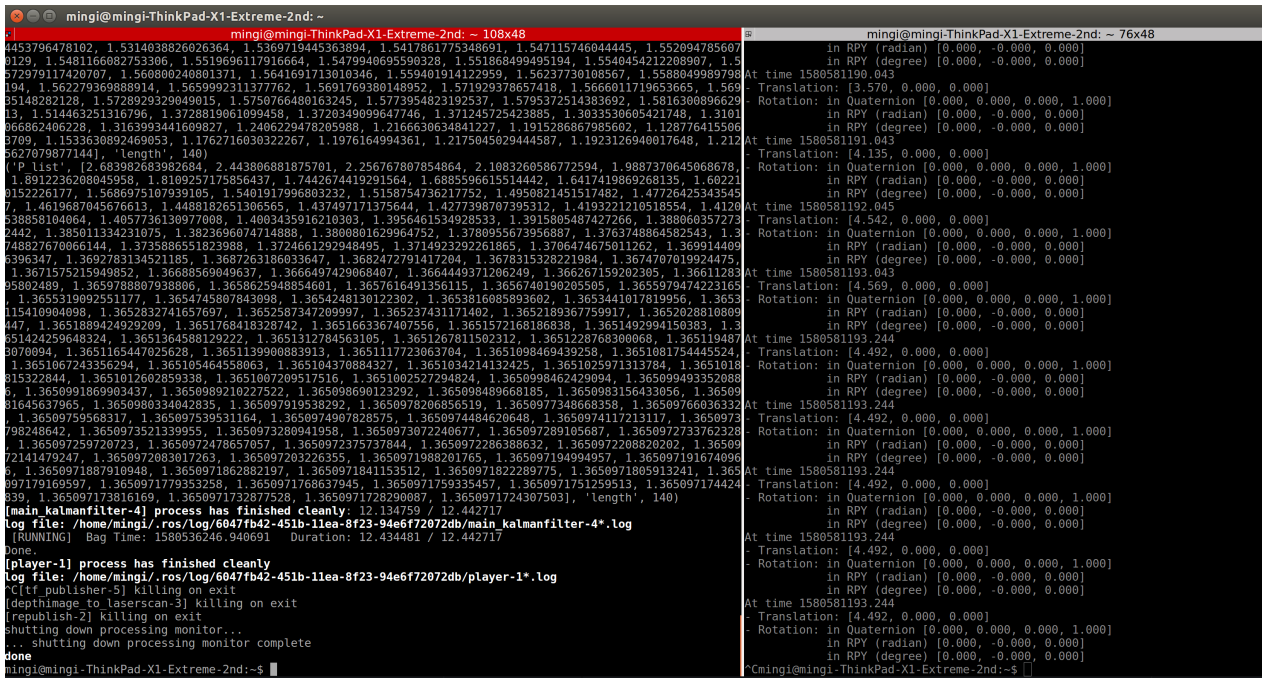

Figure 4: Result of state estimates (left) and tf echo (right)
- For robustness of my program, several tests with different rosbag files were found to work correctly. Those bag files were shared in my google drive for your reference. https://drive.google.com/open?id=1vMkeJstWFF-33-PqwsXU46wQfwEDaY1_. The demo screen is as shown in Fig. 4